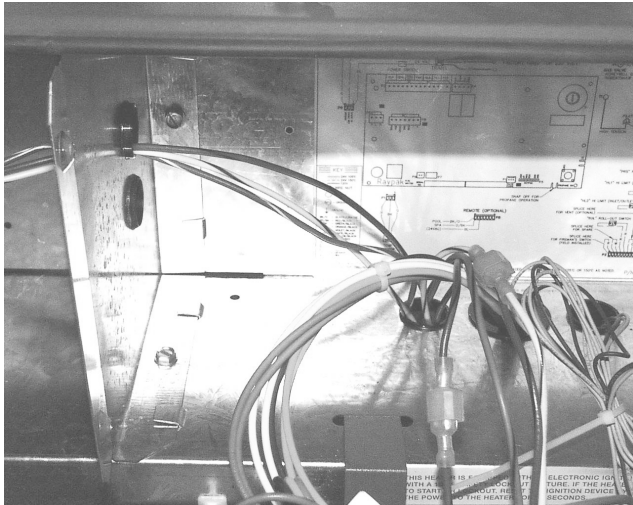

Figure 22. Harness Routing Continued
20. Continue to route the harness down through any available grommet hole. See **Figure 22**.